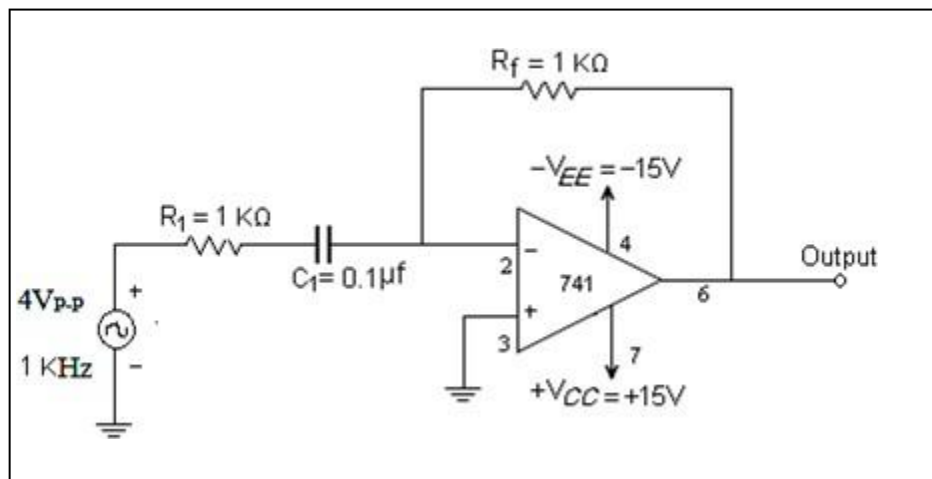

Fig 4 Differentiator Circuit
1. Connect the circuit as per the diagram shown in Fig 4